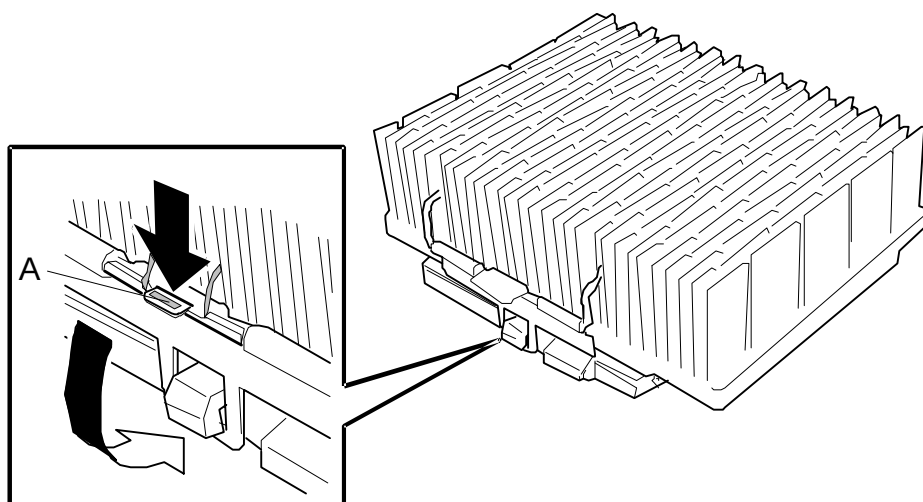

Figure 10. Installing Heat Sink Clip
- 11.** Using a small flat blade screwdriver, press down on the heat sink clip retention latch and hook it under the fastener tab on the base of the ZIF socket, as shown in Figure 10, A. The heat sink clip is now secured to the fastener tab of the ZIF socket.